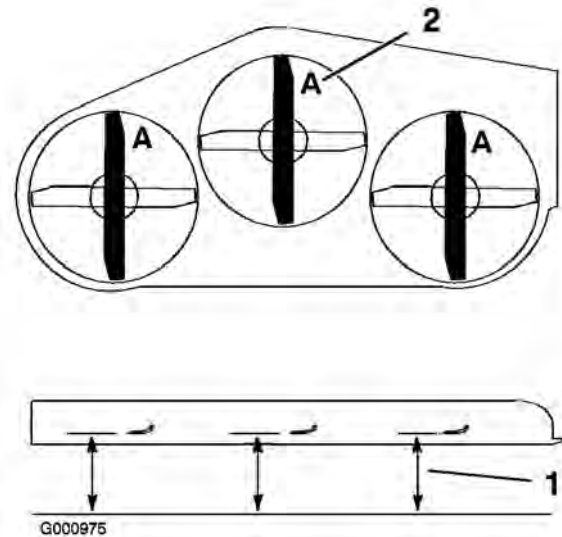

Figure 79
3. Rotate the blades until the ends face forward and backward (Figure 79). Measure from a level surface to the cutting edge, position A, of the blades (Figure 79). Note this dimension.